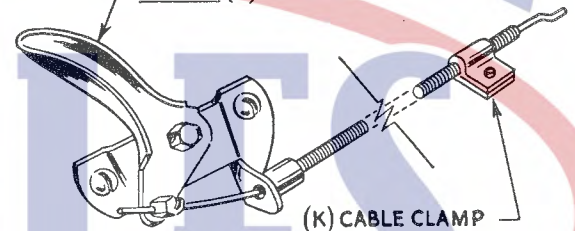

Figure 6
Move the throttle control lever (J) to an open position as shown in Figure 6. Cable clamp (K) remains loose until the end of the cable is inserted in disc (D).